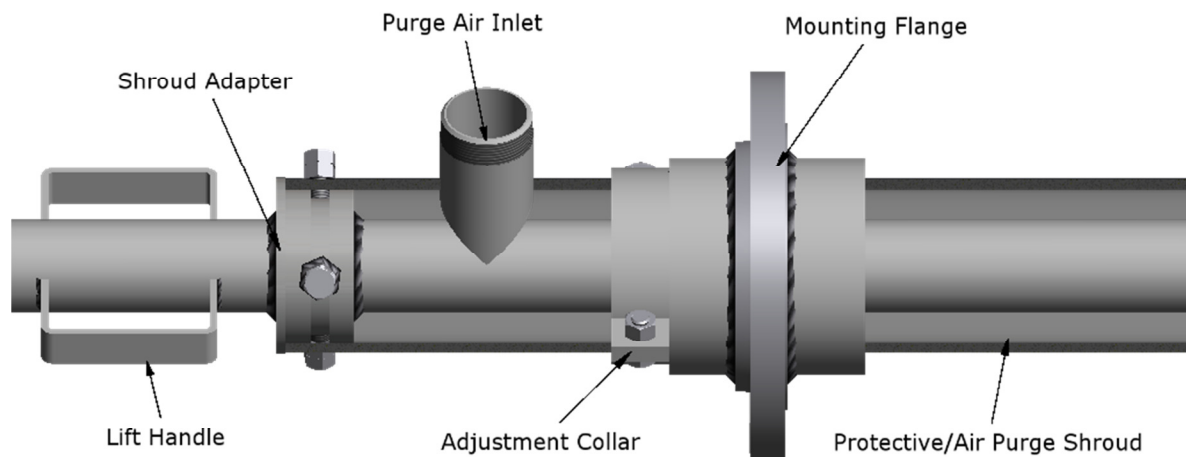

Figure 5: Optional Mounting Components
- Figure 5: Optional Mounting Components 8
- Shroud Adapter: The shroud adapter is for removing the lance from the system without removing the shroud, mounting flange, or changing the inserted length of the lance. (See Figure 5)
- Adjustment Collar: The adjustable collar allows the user to vary the insertion length. The collar is non-sealing and meant for systems at atmospheric pressure or under vacuum. (See Figure 5)